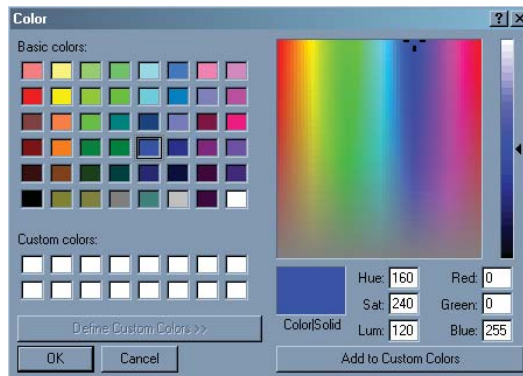

Figure 8. Edit colours dialogue box
- Click once on the coloured line in the “Graph” column of the well information section. A dialogue box will appear (Figure 8), allowing you to define your colour preferences.